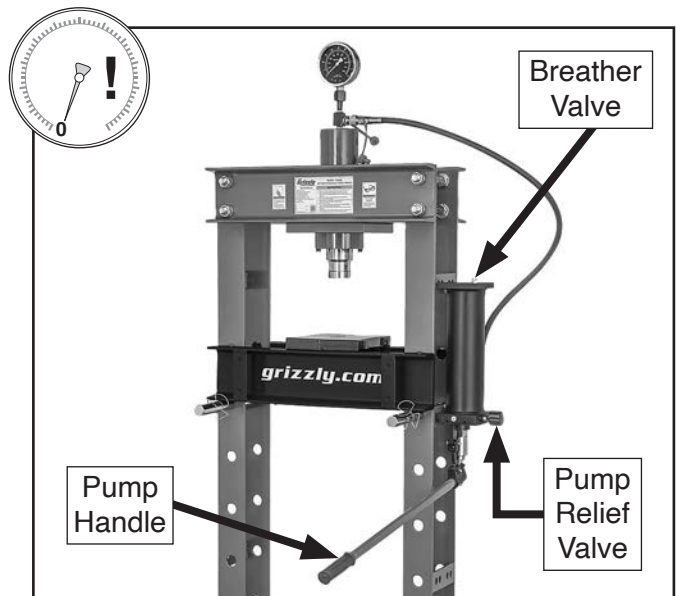

Figure 28. Location of hydraulic system components.
1. Rotate pump relief valve counterclockwise to open hydraulic system (see **Figure 28**).
2. Pump handle several full strokes to bleed air from hydraulic system (see **Figure 28**).